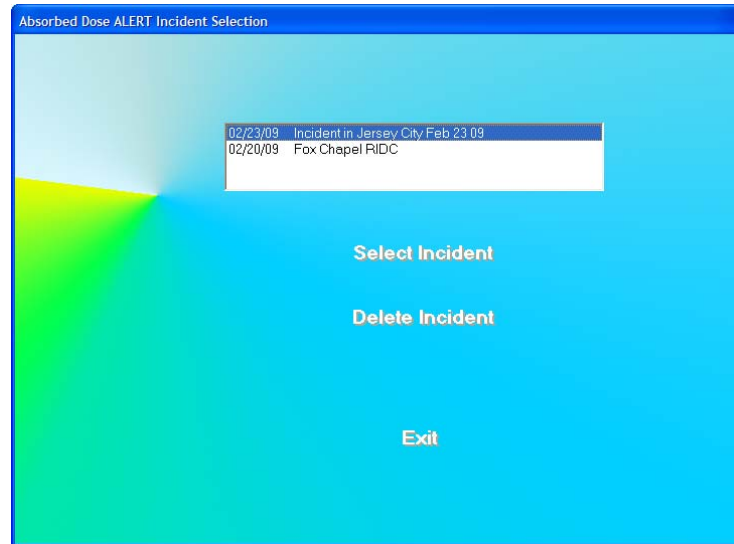

Figure 7-9
- To select an incident, click on the incident name in the list box on Figure 7-8 Incident Selection Screen. The Incident name will become highlighted and the **Select Incident** and **Delete Incident** buttons will become enabled as shown in Figure 7-9.